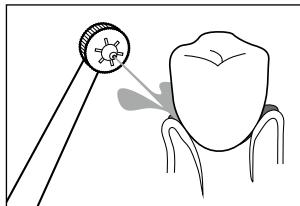
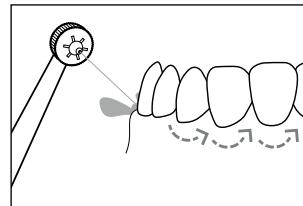

Fig. 8
Fig. 9
- To avoid splashes, do not switch on the hand unit ⑤ until it is in your mouth.
- ◆ Switch on the hand unit ⑤ by moving the On/Off switch for the water jet I/O ④ on the hand unit ⑤ to I.
- ◆ Direct the water jet at the gaps between your teeth and the edges of your teeth to clean them. Position the nozzle attachment ② so that the water jet can rinse the food remnants away from the gums (see Fig. 8). Move the nozzle attachment ② slowly along the edge of the teeth from gap to gap (see Fig. 9). Clean all the front and back sides of your teeth in this way.